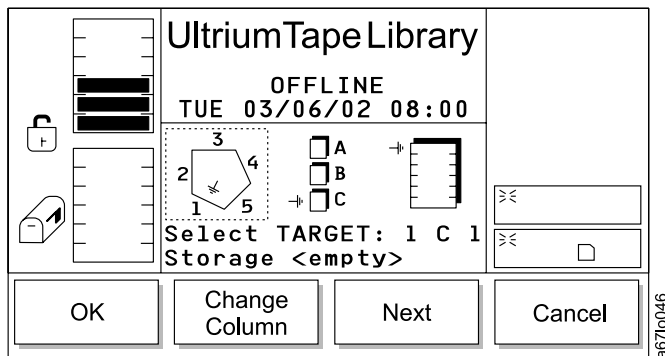

Figure 113. Target Move Media Dialog
- If **OK** is selected, the source parameters are accepted and the Target Move Media Dialog displays (see Figure 113 on page 108).
- If **OK** is selected, the source parameters are accepted and the Target Move Media Dialog displays (see Figure 113).